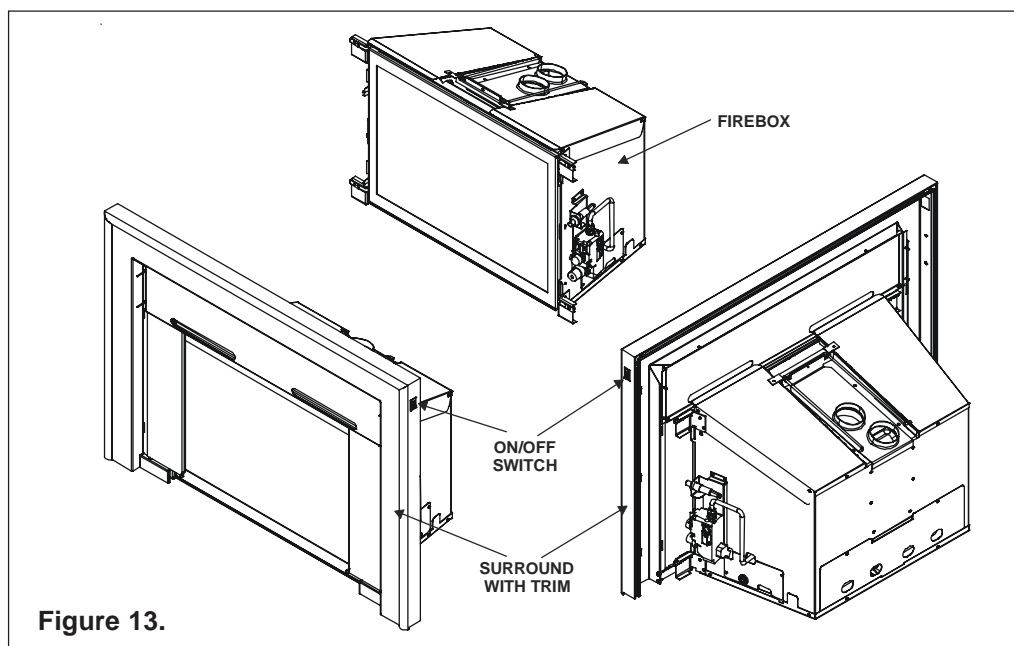

Figure 13.
1. Find the coiled low voltage wires attached to outer right side of the insert (see Figure 13).
4. Attach surround assembly by securing four corners with screws provided (see Figure 13.) Reposition the fireplace if necessary. Refer to surround instructions provided with the decorative surround.